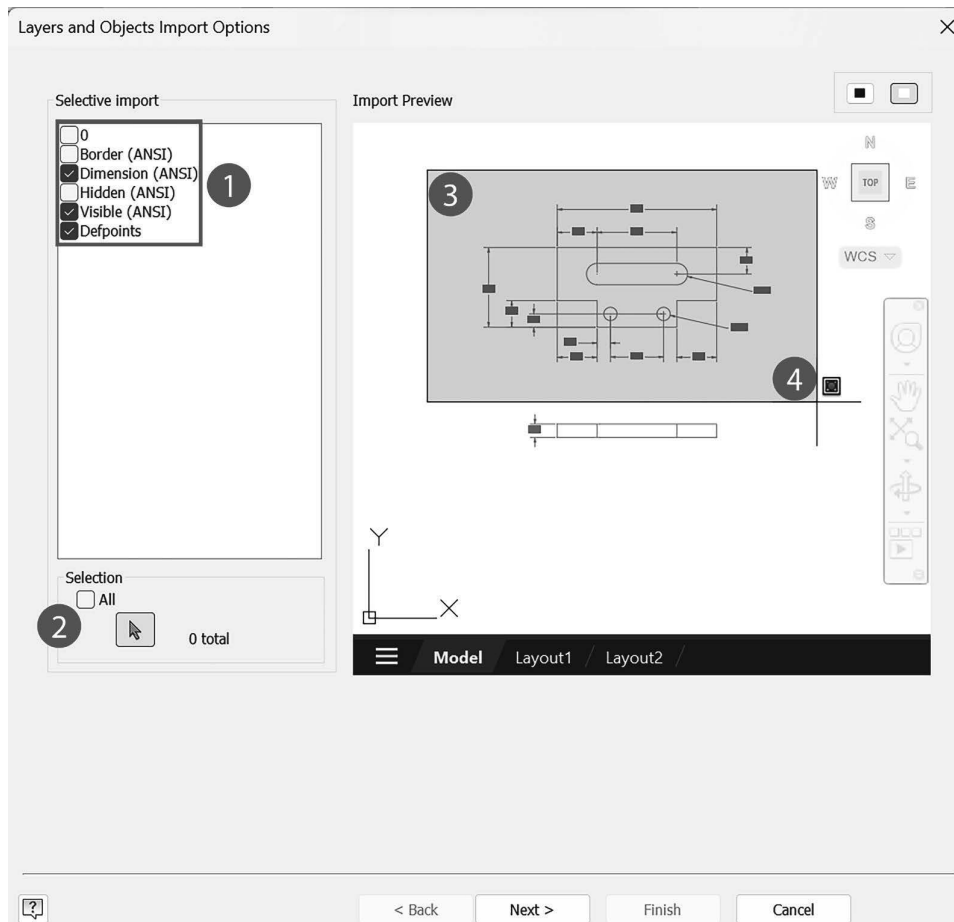

Figure 2.91
- 5 From the Layers and Objects Import Options dialog box *uncheck* the layers that are not needed. In the upper left corner of the dialog box *uncheck* layers 0, Border (ANSI) and Hidden (ANSI) as shown in Figure 2.91 (1).
- 6 In the Selection area near the bottom left corner of the dialog box *uncheck* All, labeled (2) in the following image.
- 7 Select the geometry and dimensions to insert, use the window selection—click a point above and to the left of the geometry labeled (3) and then click a point below and to the right of the geometry labeled (4). Note that if you click and drag you can draw an irregular shape around the geometry.